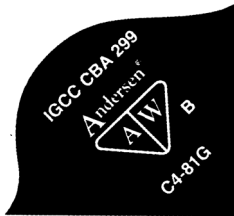

Fig 7. Bronze (B) or grey (G) indicated at side of logo.
- 2001 to 2004* In the first quarter of 2001, the text was moved to an “L” shape to emphasize the Andersen® brand name and triangle (figure 7). Use of a laser provided crisper images. NFRC codes were added to identify product line. The HP version (for example, .7) was moved from behind the date code (CIG-3 2-02.7) to behind the plan code (CIG-3.7 2-02).
From 1971 to 1985 Cardinal supplied Andersen with bronze and gray tinted glass. Tinted glass is indicated with a “B” or “G” next to the AW logo (figure 7). Bronze and gray glass were discontinued in 1985; replacement glass is available for warranty only.